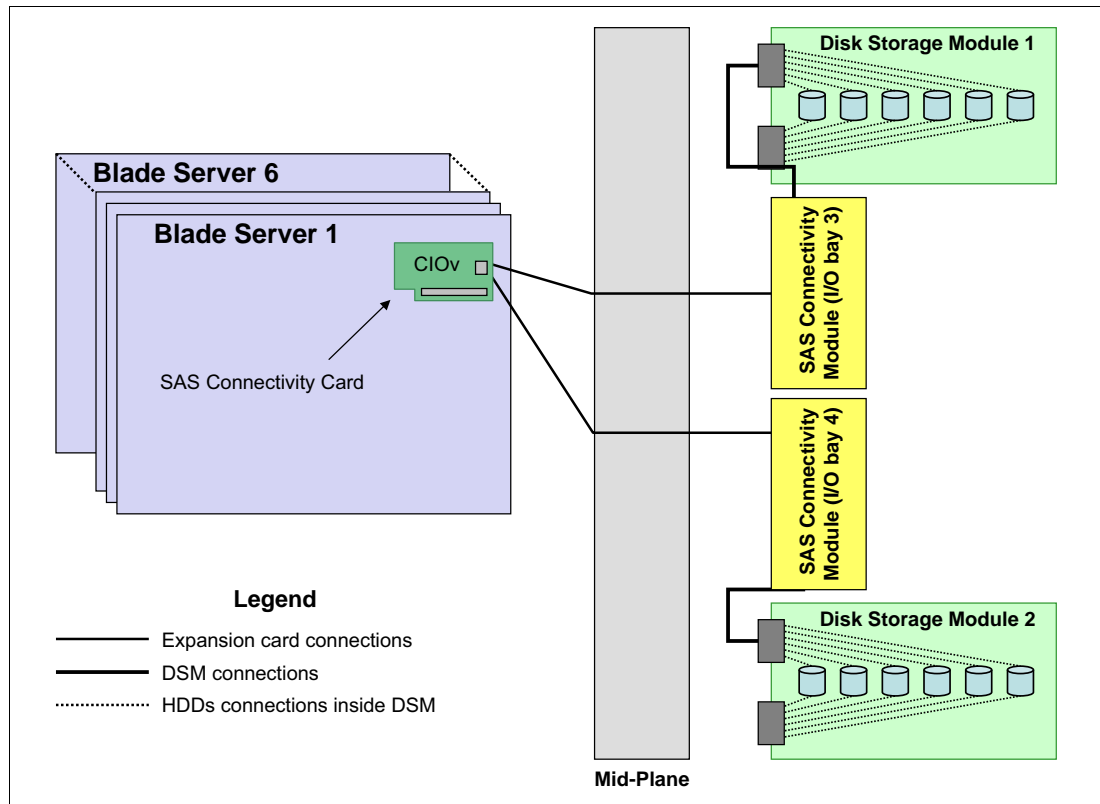

Figure 5-8 SAS I/O connections with two SAS Connectivity Modules installed
Figure 5-8 shows a sample connection topology for basic local storage with two SAS Connectivity Modules installed.
- RAID 0 (Integrated Striping (IS))
- RAID 1 (Integrated Mirroring (IM))
- ▶ When creating a RAID 1 array, span both disk storage modules. This configuration maximizes the availability of data if one of the paths to the disks is lost, because there is only one connection to each disk storage module, as shown in Figure 5-8 on page 478.